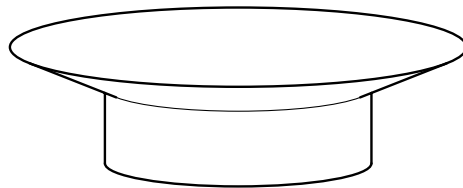

Fig. 4
- 8 Fig. 4 shows a copper dish and foot ring that have just been silver soldered together.